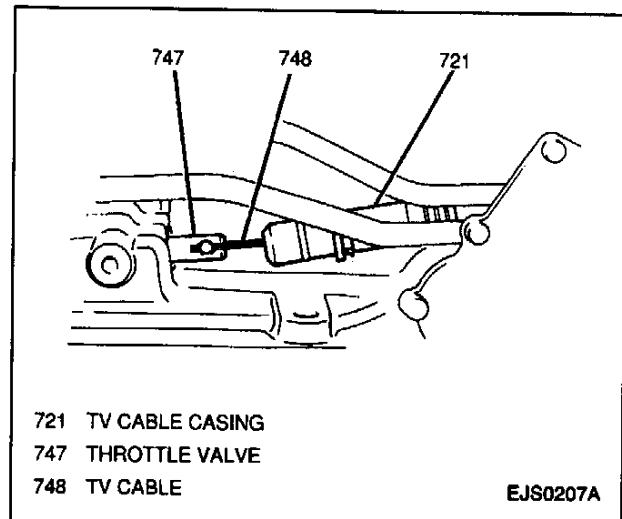

Figure 22—Removing TV Cable from Throttle Valve (3L30, 3-Speed)
7. TV cable casing from transmission and TV cable end from throttle valve (Figure 22).
1. TV cable end into throttle valve and TV cable casing into transmission (3L30, 3-Speed) (Figure 22).